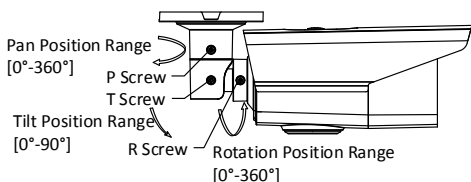

Figure 2-3 3-axis Adjustment
5. Adjust the camera according to Figure 2-3 to get an optimum angle.